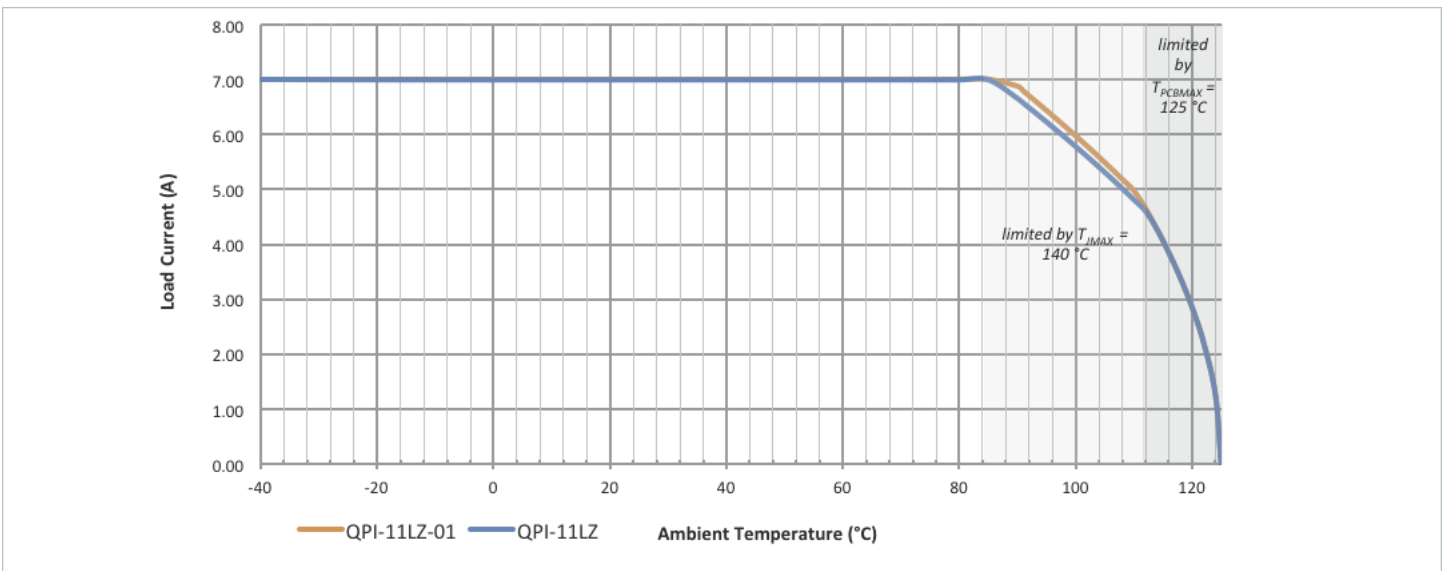

Figure 6 — Current de-rating over ambient temperature range.
- -40° to +125°C PCB temperature (see Figure 6)
[c] See Figure 6 for the current de-rating curve.